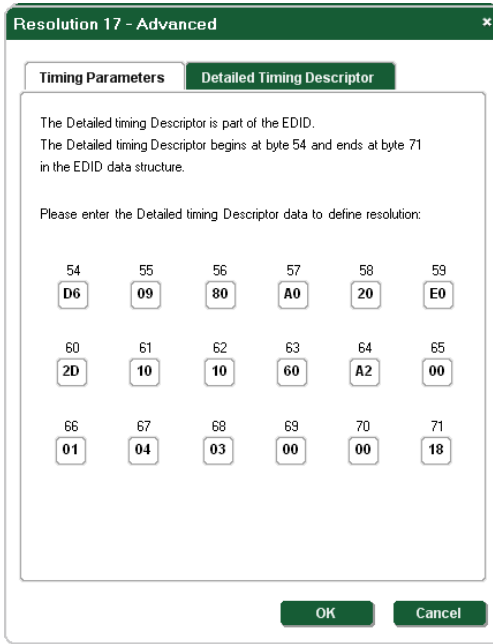

Figure 14: User Defined Resolution Advanced Window–Detailed Timing Descriptor Tab
6. Click **OK** to accept the changes or click on the **EDID** tab to edit the EDID values as shown in Figure 14.